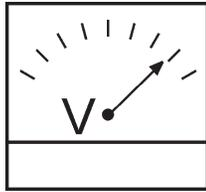
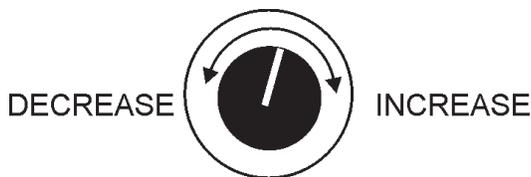

Figure 33. Voltmeter
Figure 34. Voltage Adjust Control Knob
5. The generator's AC-voltmeter (Figure 33) will display the generator's output in **VOLTS**. If the voltage is not within the specified tolerance, use the voltage adjustment control knob (Figure 34) to increase or decrease the desired voltage.